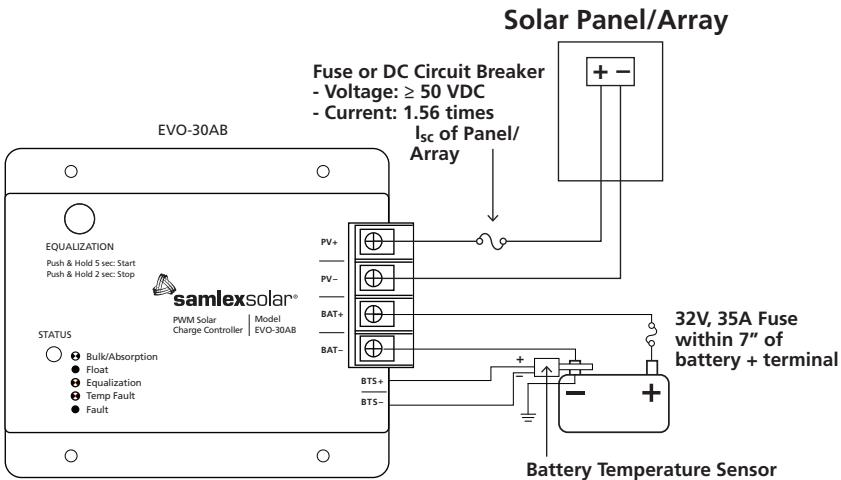

Fig. 6.2. EVO-30AB Wiring Diagram
1. The connections to the EVO-30AB terminals are shown in the drawing in Fig. 6.2. A barrier type of Terminal Strip has been provided for connecting the PV array and the battery. M-4 screws with clamping washers are used to make the connection. Use a flat or a #2 Philips head screw driver to tighten screws. Tighten each screw to 20 inch-pounds of torque. The distance between the barriers is 9 mm and a standard Spade Type of terminal lug meant for #8 Stud and AWG #10 – AWG #12 wire may be used at the end of the wires to be connected to these terminals. 4 terminal lugs **with #8 stud and #10-12 Awg cable provided as well as 4 terminal lugs with #8 stud and #8 Awg cable are provided.**
BTS consists of a temperature sensing probe that is installed on the (-) Negative battery post (Fig. 6.2). The temperature of the battery post reflects the approximate temperature of the electrolyte. A pair of 10 metres wires (marked + & -) connect the temperature sensing probe to the 2 terminals marked (+) BTS and (-) BTS.